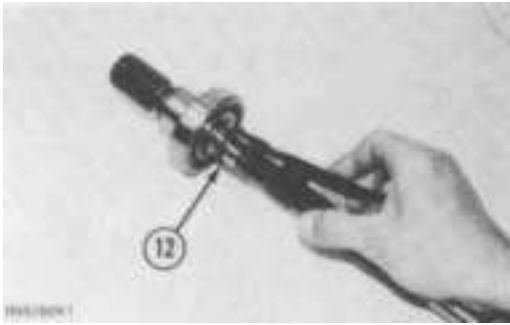

FIGURE 7-43
7. Use a snap ring pliers to install the snap ring (12, Figure 7-43) on the shaft.